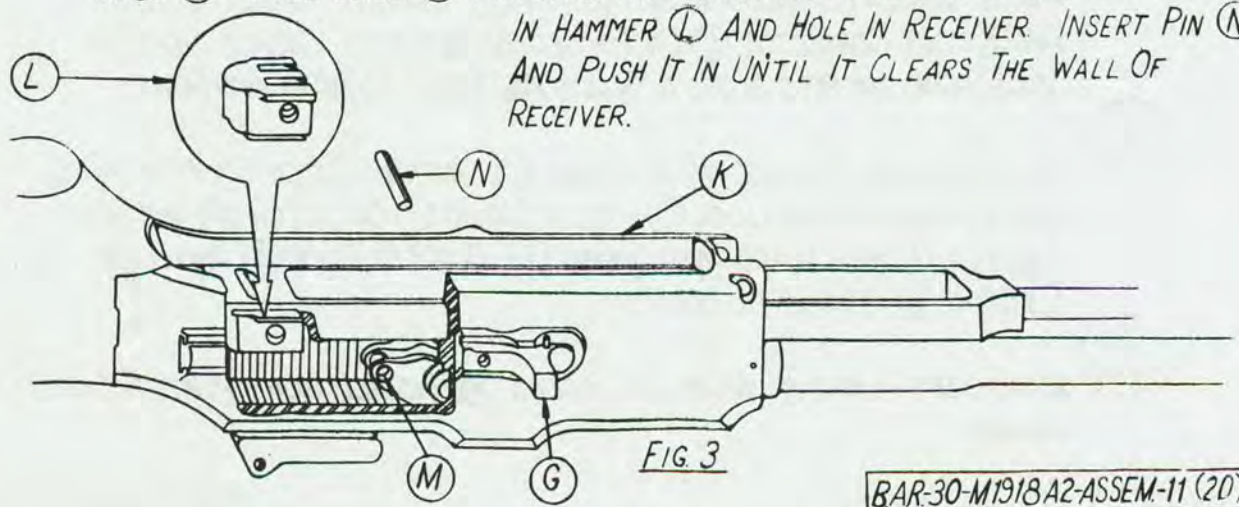

FIG 3
(30) SLIDE OPERATING HANDLE (G), FIG 3, INTO RECEIVER TO FORWARD POSITION. INSERT SLIDE (K) FROM FRONT OF RECEIVER, SLIDING IT TO REAR. SLIDE HAMMER (L) INTO SLIDE (K). PULL SLIDE (K) FORWARD AND ALIGN HOLES (M) IN BOLT LINK WITH HOLES IN HAMMER (L) AND HOLE IN RECEIVER. INSERT PIN (N) AND PUSH IT IN UNTIL IT CLEARS THE WALL OF RECEIVER.
(42) SECURE WINDAGE SCALE (L), FIG. 3, TO BASE (M) WITH TWO SCREWS (N).